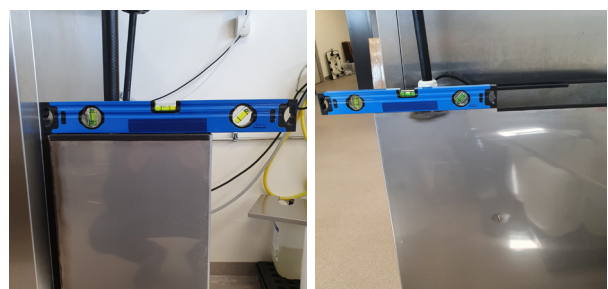

Figure 11
2. Make sure the tank is in level by adjusting its feet (Fig. 11).